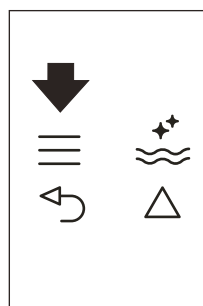
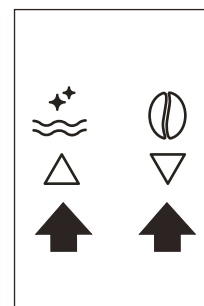

Fig. 22
Fig. 9
- ▶ Press the ≡ icon (B2) to enter the menu (Fig. 22), then press the icons △ ▽ (B7) and (B8) (Fig. 9) until "PROGRAM CAPPUCCINO" is displayed.
- ▶ Press the ☰ icon (B2) to enter the menu (Fig. 22) or press the ▲ ▼ icons (B7) and (B8) (Fig. 9) until "PROGRAM CAPPUCINO" is displayed.
- ▶ Press the OK icon (B9) to confirm then the ▲ ▼ icons (B7) and (B8) (Fig. 9) until "COFFEE FOR CAPPUCC." is displayed.